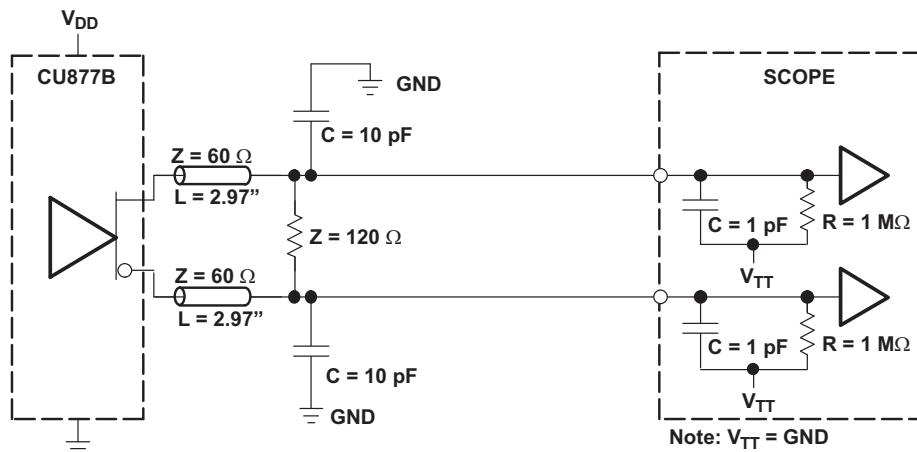
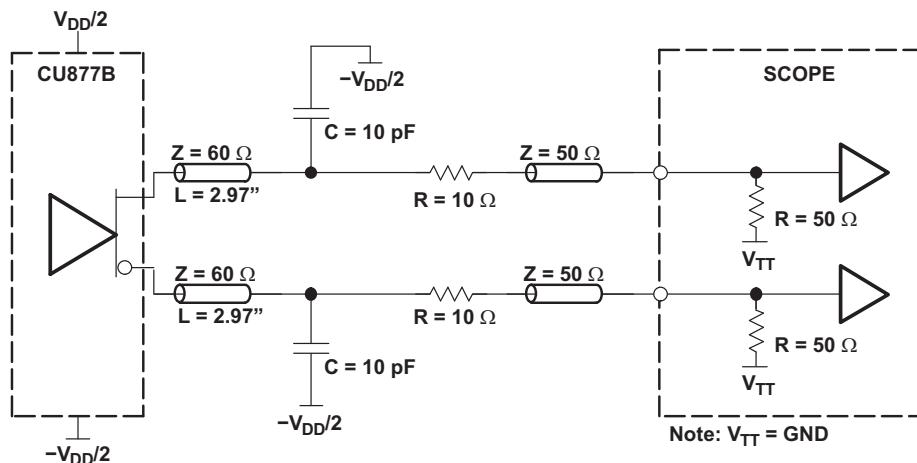

Figure 2. Output Load Test Circuit 1
Figure 3. Output Load Test Circuit 2
- (1) There are two different terminations that are used with the following tests. The load/board in Figure 2 is used to measure the input and output differential-pair cross voltage only. The load/board in Figure 3 is used to measure all other tests. For consistency, equal length cables must be used.
- (2) This parameter is specified by design and characterization.
- (3) Phase static offset time does not include jitter.
- (4) Period jitter, half-period jitter specifications are separate specifications that must be met independently of each other.
- (5) The output slew rate is determined from the IBIS model with a 120-Ω load only.
- (6) To eliminate the impact of input slew rates on static phase offset, the input skew rates of reference clock input CK and \overline{CK} and feedback clock inputs FBIN and \overline{FBIN} are recommended to be nearly equal. The 2.5-V/ns skew rates are shown as a recommended target. Compliance with these typical values is not mandatory if it can adequately shown that alternative characteristics meet the requirements of the registered DDR2 DIMM application.
- (7) Output differential-pair cross voltage specified at the DRAM clock input or the test load.